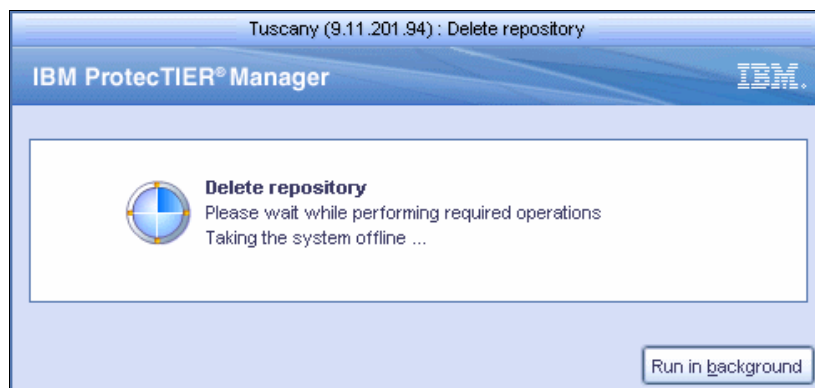

Figure 5-66 ProtecTIER Delete repository: System temporarily goes offline
6. The ProtecTIER system temporarily goes offline to delete the repository (Figure 5-66).